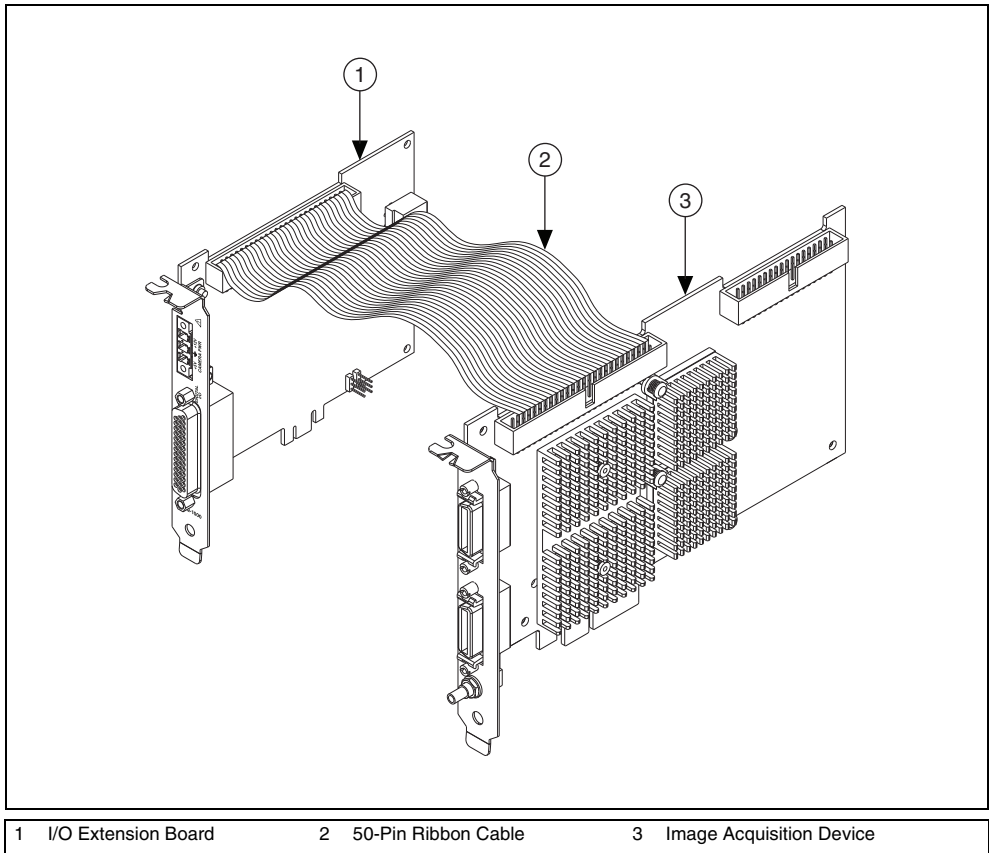

Figure 2. Connecting the I/O Extension Board to an Image Acquisition Device
9. Connect the 50-pin ribbon cable from the I/O Extension Board to your image acquisition device. Figure 2 shows how to connect the 50-pin ribbon cable from the I/O Extension Board to an image acquisition device that supports the I/O Extension Board.